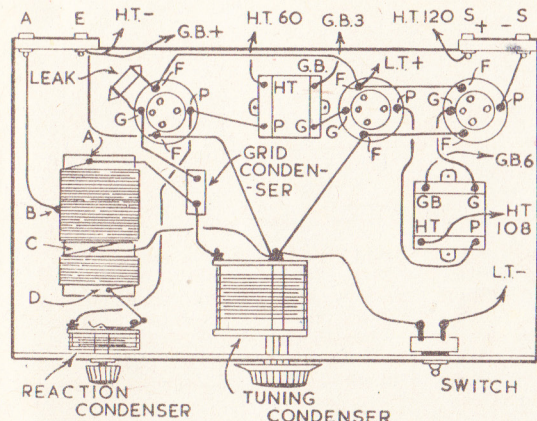
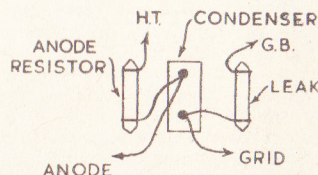

Fig. 1—The complete wiring diagram
Fig. 2—Alternative coupling circuit
Two transformers are used for coupling, and these may have a ratio of between 1:3 and 1:5. The usual type of markings are shown in Fig. 1, but some transformers are marked (P) and (S). With these, take the two tags or terminals on the (P) side to valve plate
Either, or both, of the transformers may be eliminated by using the resistors and condenser shown in Fig. 2 instead. If one transformer is to hand, use it between the centre and output valves, and employ the R.C.C. circuit between detector and centre valve.
The leak shown in Fig. 2 should be, for preference, .5 megohm. However, values between .25 megohm and 1 megohm will work quite well. The anode resistor should be 50,000 ohms, but values between 35,000 ohms and 100,000 ohms are quite satisfactory, for the detector valve. If this type of coupling is also used between centre and
Resistance-capacity coupling does not provide so much volume as the use of transformers. If it is employed, comparing Fig. 2 with Fig. 1 will show how it is wired in.
Any small on/off switch can be used, and three 4-pin English type valve-holders. If these have terminals, no soldering will be necessary. The detector leak (see Fig. 1) should be 2 megohms, but, if to hand, values between 1 and 3 megohms can be used. The grid condenser in Fig. 1 is best of .0003 mfd. capacity, but values between .0001 and .0005 can be used.